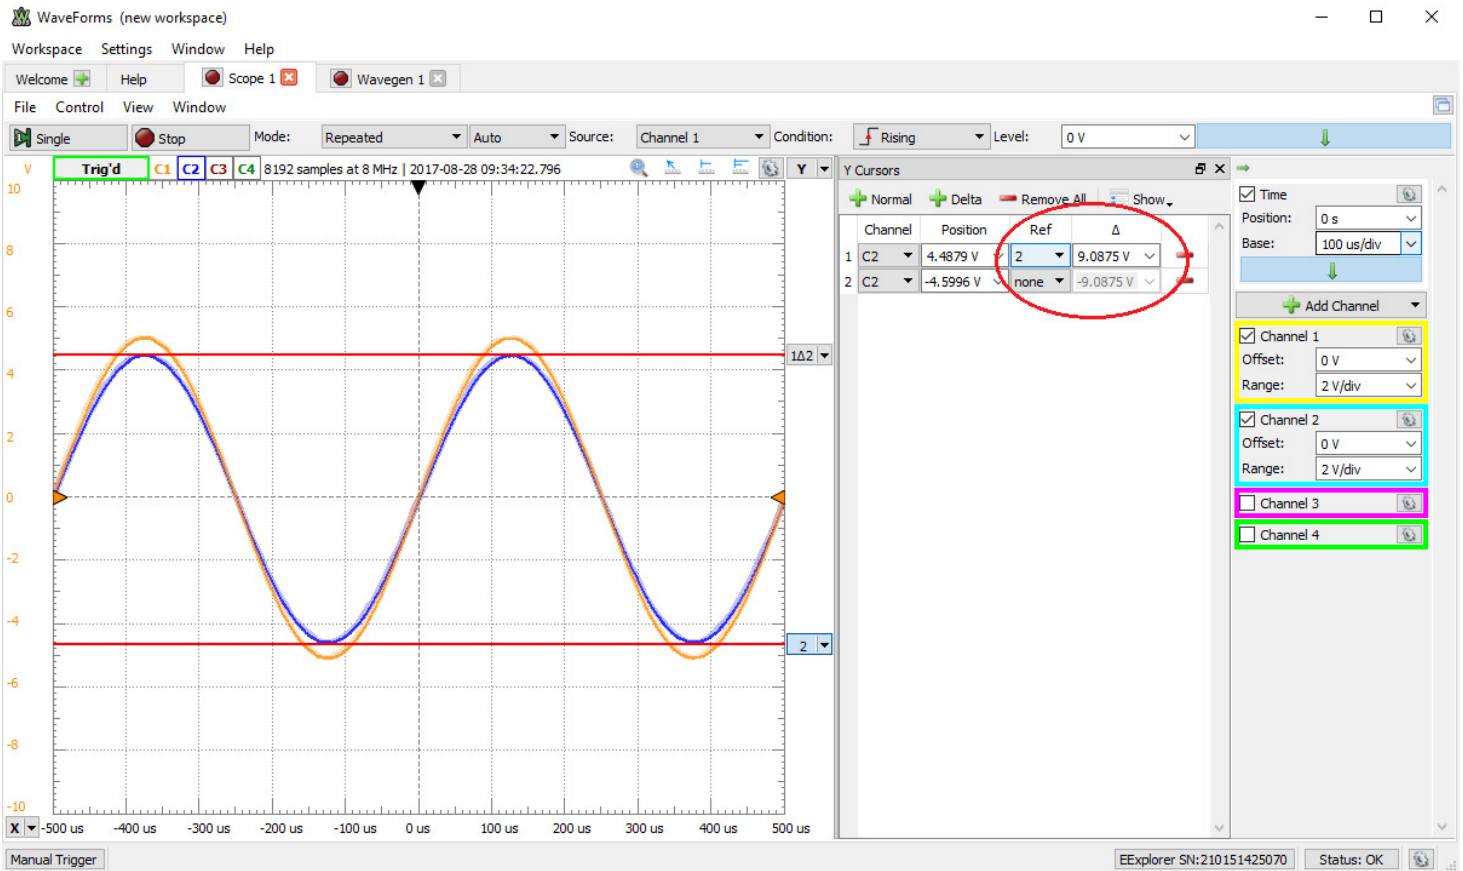

Figure 3 - Circuit Diagram for Voltage Measurement
- 2.4 Measure and record the voltage across each resistor, using the oscilloscope to measure peak values on C2 while rms values are measured with the DMM. Call these values V_{Measured} . Note that you need to use the cursors on the oscilloscope to measure peak-to-peak voltages and half them to get peak voltage. The following procedure shows how to measure peak-to-peak voltage when V_3 (fig. 2a) is being measured: Select “View” tab and select “X Cursors” and “Y Cursors”. In X and Y Cursors windows, click “+ Normal” icon to add cursors. At this stage you should be seeing an image similar to figure 3, where C1 is AWG1 and C2 is V_3 . Grab the Y1 icon and drag it to the top of C2 then grab the Y2 icon and drag it to the bottom of C2, as shown in figure 3.